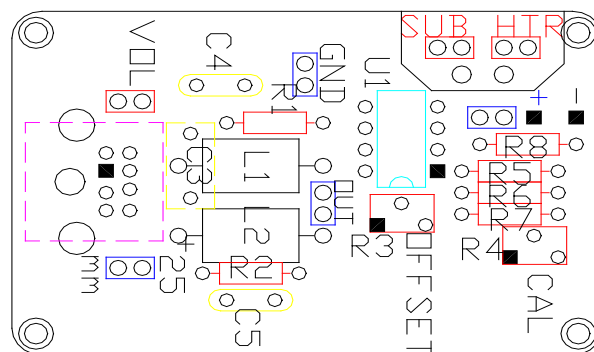

Figure 4. Vector Calorimeter Circuit Board
- A. Remove the screws holding the calorimeter's ID tag and remove the plate to expose the circuit board as shown in Figure 4.
- E. Remove the screws holding the interface module's ID tag and remove the plate to expose the circuit board. Refer to Figure 4.